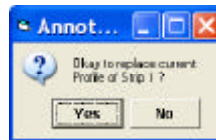

Figure 17
15. **Click** at the **OK** button to proceed with the development of the profile. As stated earlier, the profile will be placed in a data frame, labeled *Profile of Strip 1*. Since this data frame exists, the query box of Figure 17 will be displayed.
The query box of Figure 17 is displayed.
5. **Scroll** down the new *Create Sheet Data for Strip (Y=yes, N=no)*: data field, **select** the **y** option, and then **click** at the **OK** button to display the query box of Figure 17.
- **Click** at the **OK** button to display the query box of Figure 17.
- **Click** at the **OK** button to display the query box of Figure 17